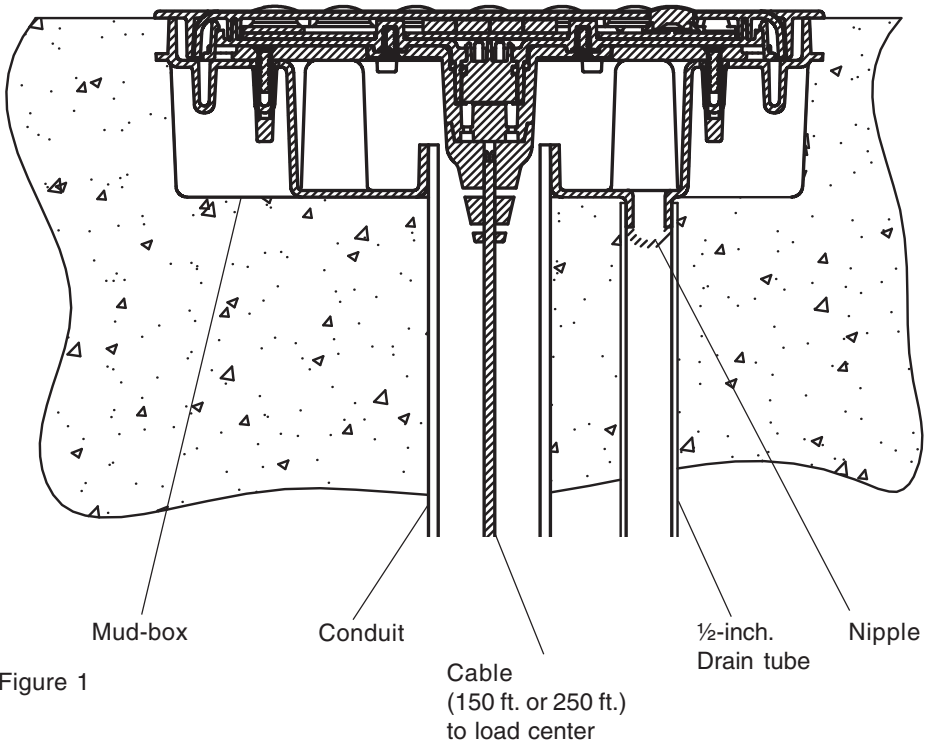

Figure 1
Prepare the mounting location near the spa: Install a one (1) inch conduit where the remote control is to be located (see Figure 1). Conduit may be reduced down to $\frac{3}{4}$ -inch or $\frac{1}{2}$ -inch after the first three (3) inches cast into the spa area. Be sure the conduit is perpendicular to the surface (90° angle). Run the conduit, using sweep elbows for turns from the spa to the low voltage raceway of EasyTouch® to IntelliTouch® Control System load center.
Mount the mud-box over the conduit. Trim the conduit so that it just protrudes into the mud-box. The fit will be loose. Orient the mud-box so that the spa-side remote is square with the deck or spa wall (see Figure 1). Secure the mud-box and plumbing together using neutral cure caulking or RTV. Insert the mud-box cover (secure with two screws) until the deck or spa wall are finished, discard cover when completed (keep the screws for bracket installation).